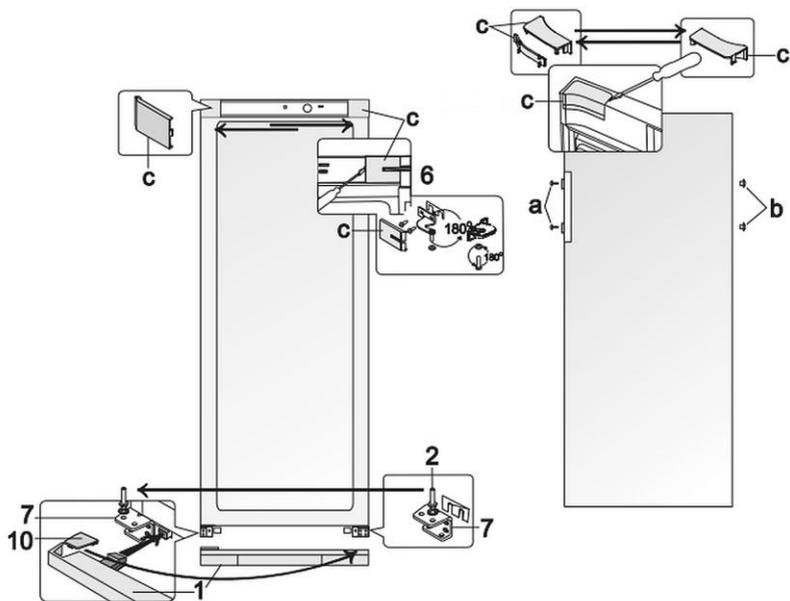

Fig. 6
1. Remove cover strips (c, Fig. 6) from the housing and the internal side of the door.
2. Remove the top support (6) together with washers and a plastic gasket under the support.
4. Remove the bottom cover strip (1).
5. Loosen the support stud (2) on the bottom support (7).
6. Bolt it with all washers on the opposite support (7), symmetrically with the previous location.
7. Set the cooler door on the support stud (2), moving it from the support (7).
8. Rotate the support (6) with the support stud, washers and plastic gasket by 180°.
10. Insert the support (6) into cooler door and screw it in openings at the other side of the cooler.